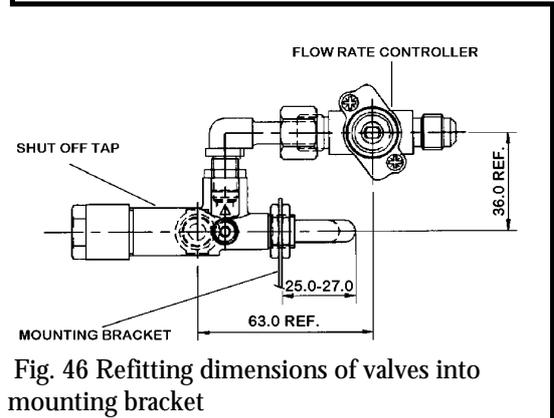

Fig. 46 Refitting dimensions of valves into mounting bracket
13.9.8 If fitting a new tap, remove the hexagonal nut at the mounting bracket end of the old tap and fit to the replacement tap. Refit in the reverse order - **NOTE** - prior to refitting the elbow to the shut-off tap, apply an approved sealant to the elbow thread. Refer to figure 46 to ensure accurate refitting dimensions of the valves and subsequently into the mounting bracket. When refitting, make sure that the tap spindle is in the correct relationship relative to the control pivot bracket. Rotate the pivot bracket fully clockwise. The tap spindle should "bottom out" (i.e. the tap should be fully open) after the pivot bracket has actuated the ignition microswitch but before it has pushed the microswitch leaf against the microswitch body.